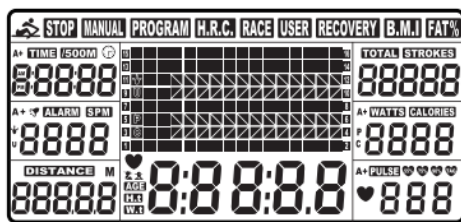
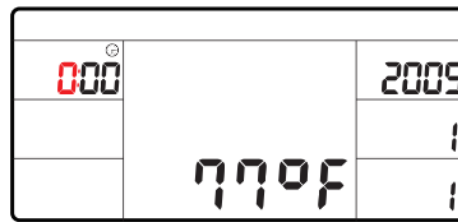

Fig. 1
Fig. 2
1. Install 2 AA batteries (not included) and computer will beep for 2 seconds (Fig.1). The computer will enter into the CLOCK & CALENDAR MODE (Fig.2).